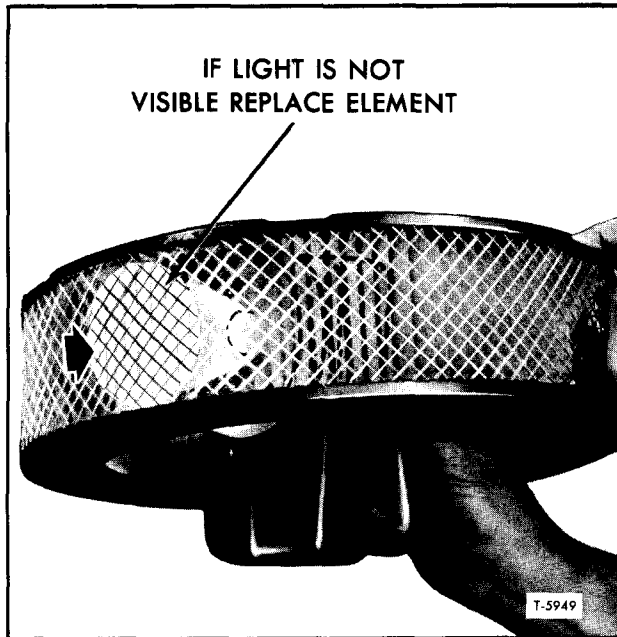

Figure 3—Checking Element with Air Filter Viewer
b. Position the viewer as shown in figure 3 and turn on viewer light. A dirt-clogged element prevents the light from being visible from outside.